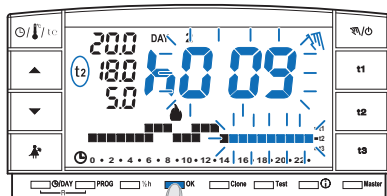

fig. 45
- Press **OK** and the number of hours that temporary manual mode will be active fore will blink on the display (example in fig. 45).